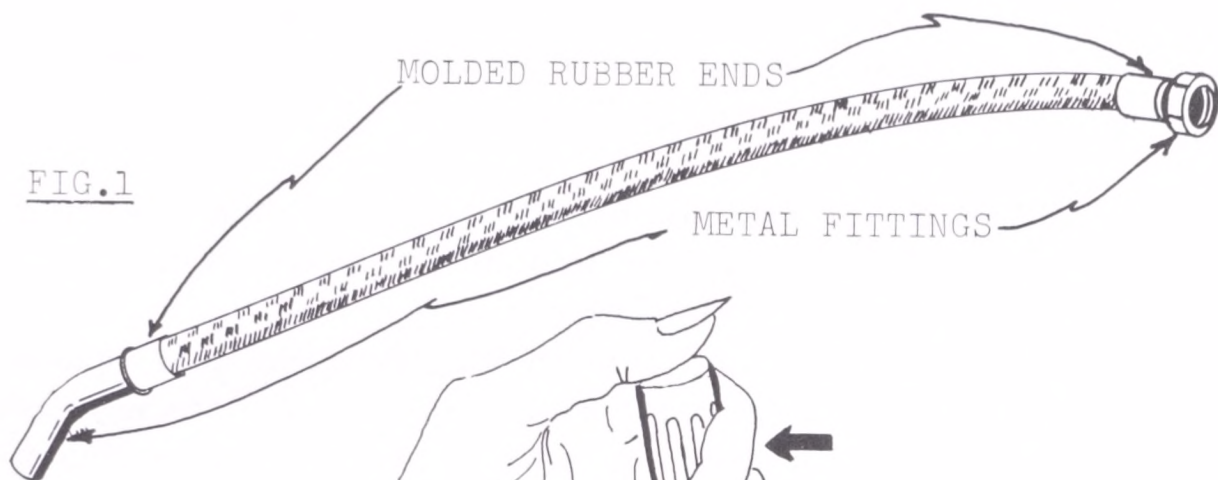

FIG. 2
2. If hose is constructed with molded rubber ends, remove metal fittings by prying molded end of hose loose with a medium size screwdriver. (*Figure 2*) Then grasp the metal fitting with one hand and the hose end with the other and remove the fitting using a twisting, pulling motion.